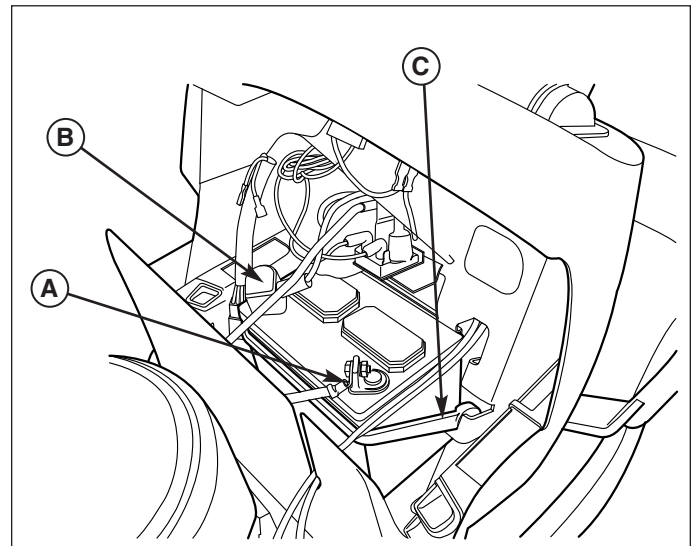

Figure 16. Battery
1. Disconnect the cables from the battery, negative cable first (A, Figure 16).
2. Remove the battery hold-down (C) and battery.
5. Reinstall the battery in the battery compartment, and secure with the battery hold-down (C).
6. Reattach the battery cables, positive cable first (B).